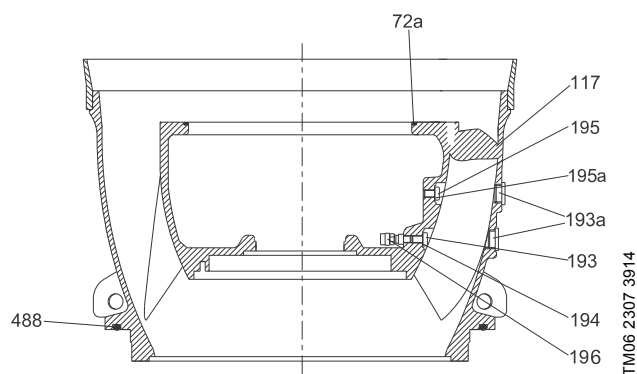

Fig. 100 Discharge casing, KWM
1. Lubricate and fit the O-ring (pos. 72a) on the lower bearing bracket (pos. 155).
2. Mount the non-return valve (pos. 196) in the discharge casing.
3. Lower the discharge casing (pos. 117) into place.
4. Mount the screws (pos. 184a) and tighten them according to section 7. *Tightening torques and lubricants*. See figs 100 and 101.
5. KWM 800-1600 only: Lubricate and mount the O-ring (pos. 488) on the discharge casing (pos. 117). See fig. 100.